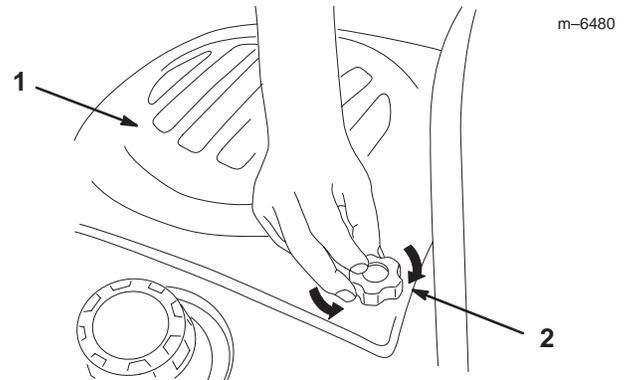

Figure 16
1. To remove the hood, loosen the knobs and then pull the hood back and up (Fig. 16).
3. Tighten the knobs in the engine hood (Fig. 16).